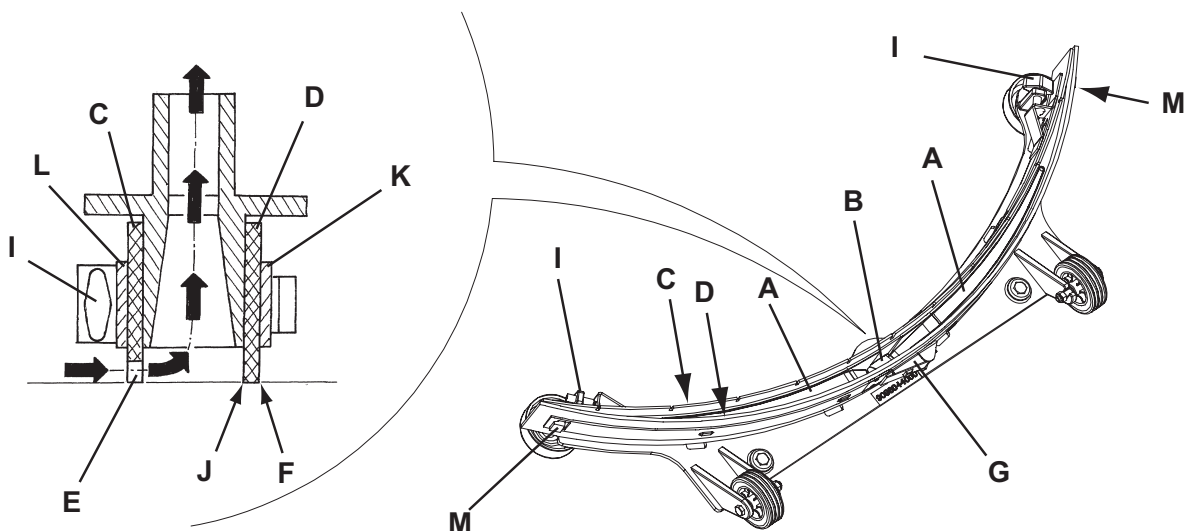

Figure 3
1. Clean the squeegee (Fig. 3) as shown in the previous paragraph.
2. Check that the edge (E, Fig. 3) of the front blade (C) and the edge (F) of the rear blade (D) lay down on the same level, along their length; otherwise adjust their height according to the following procedure:
- Remove the tie rod (G), disengage the retainers (M) and adjust the rear blade (D); then engage the retainers and install the tie rod.
- Loosen the handwheels (I) and adjust the front blade (C); then tighten the handwheels.
3. Check the front blade (C) and rear blade (D) for integrity, cuts and tears; if necessary replace them as shown below. Check that the front corner (J) of the rear blade is not worn; otherwise, overturn the blade to replace the worn corner with an integral one. If the other corners are worn too, replace the blade according to the following procedure:
- Remove the tie rod (G), disengage the retainers (M) and remove the retaining strip (K), then replace/overturn the rear blade (D). Install the blade in the reverse order of removal.
- Unscrew the handwheels (I) and remove the retaining strip (L), then replace the front blade (C). Install the blade in the reverse order of removal.